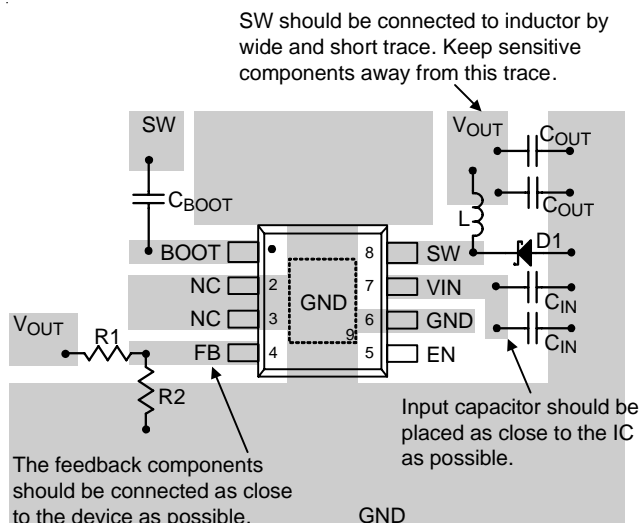

Figure 6. PCB Layout Guide
- ▶ An example of PCB layout guide is shown in Figure 6 for reference.